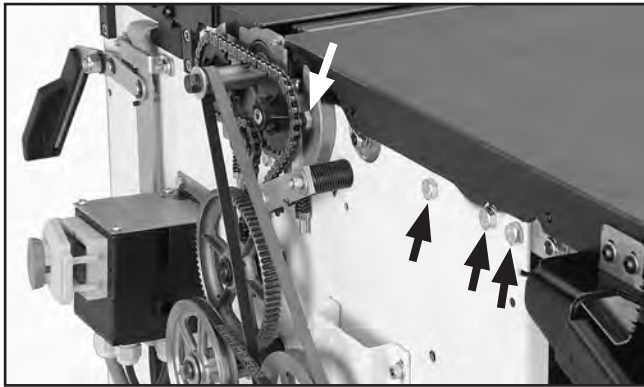

Figure 63. Location of infeed table adjustment bolts, front view.
- Loosen the eight hex bolts and flange nuts on both sides of the infeed table, as shown in **Figures 63** and **64**.